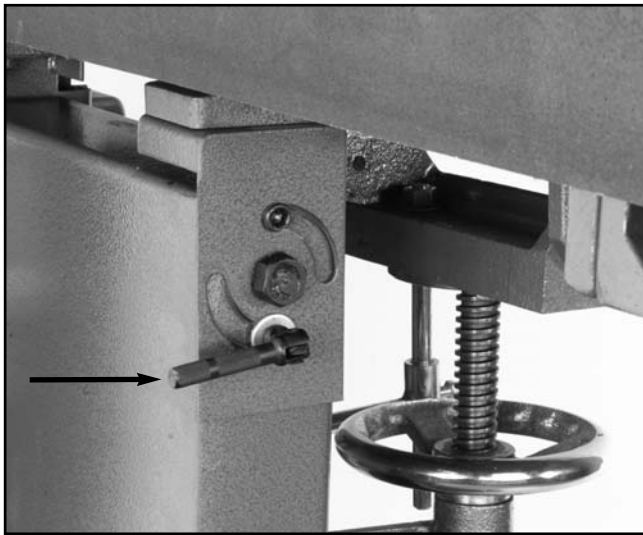

Figure 23. Platen lock bolt.
1. Loosen the lock bolt shown in **Figure 23**.
3. After returning the platen assembly back to its upright position, retighten the lock bolt depicted in **Figure 23**.